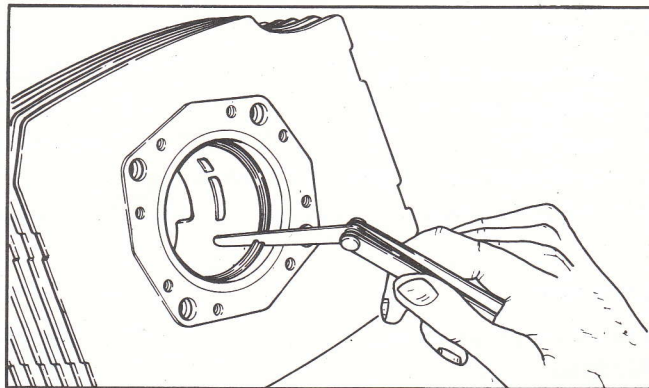

Fig. 28 - Measuring piston ring end gap
- Piston ring end gap: $0.010 \div 0.016$ in. (wear limit: 0.026 in.) (fig. 28).